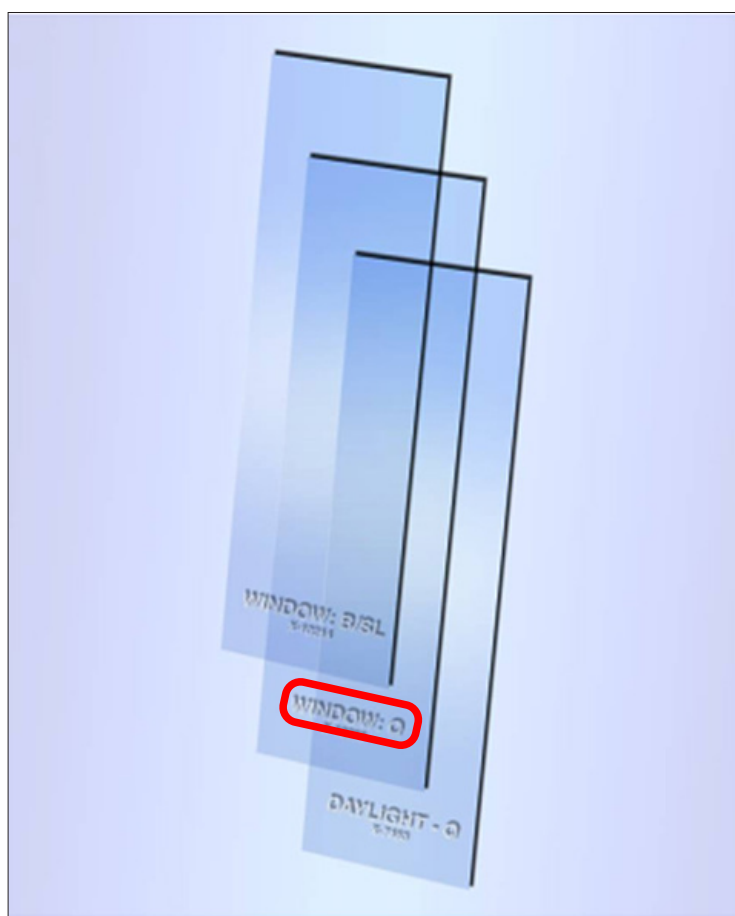

Figure 6.4a: Q-SUN Xe-3 UV filters are labeled with filter type.
- The filter type name is etched on the filters for easy identification (see Figure 6.4a).